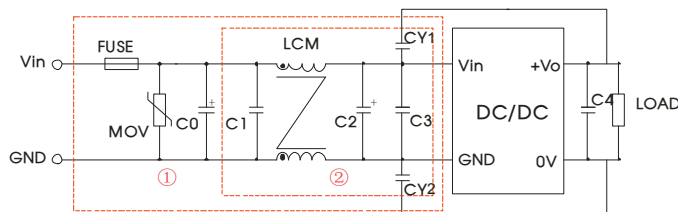

Fig. 3
24VDC nominal input	CISPR32/EN55032 CLASS A (without extra components.)/ CLASS B (see Fig.3-② for recommended circuit)
48VDC nominal input	CISPR32/EN55032 CLASS B (see Fig.3-② for recommended circuit)
24VDC nominal input	CISPR32/EN55032 CLASS A(without extra components.)/CLASS B(see Fig.3-② for recommended circuit)
Notes: For EMC tests we use Part ① in Fig. 3 for immunity and part ② for emissions test. Selecting based on needs.